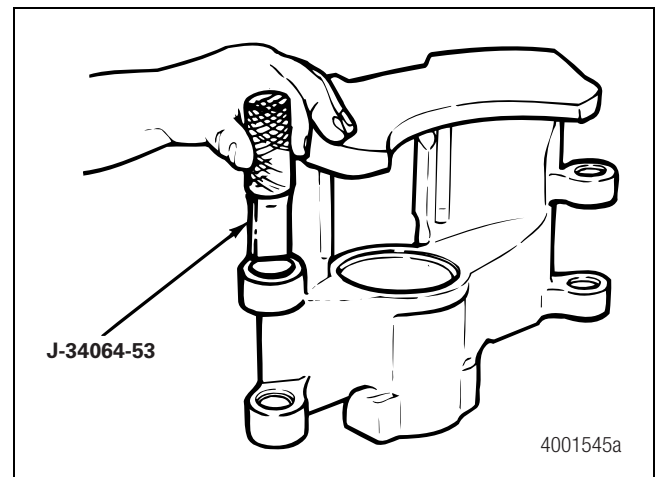

Figure 4.2
2. Use a plug gauge (J-34064-53) to check for bushing wear. When the gauge fits into the bushing, the bushing is worn and must be replaced. Figure 4.2. Refer to the procedure in this section. To obtain the plug gauge, contact SPX Kent-Moore at 800-328-6657.